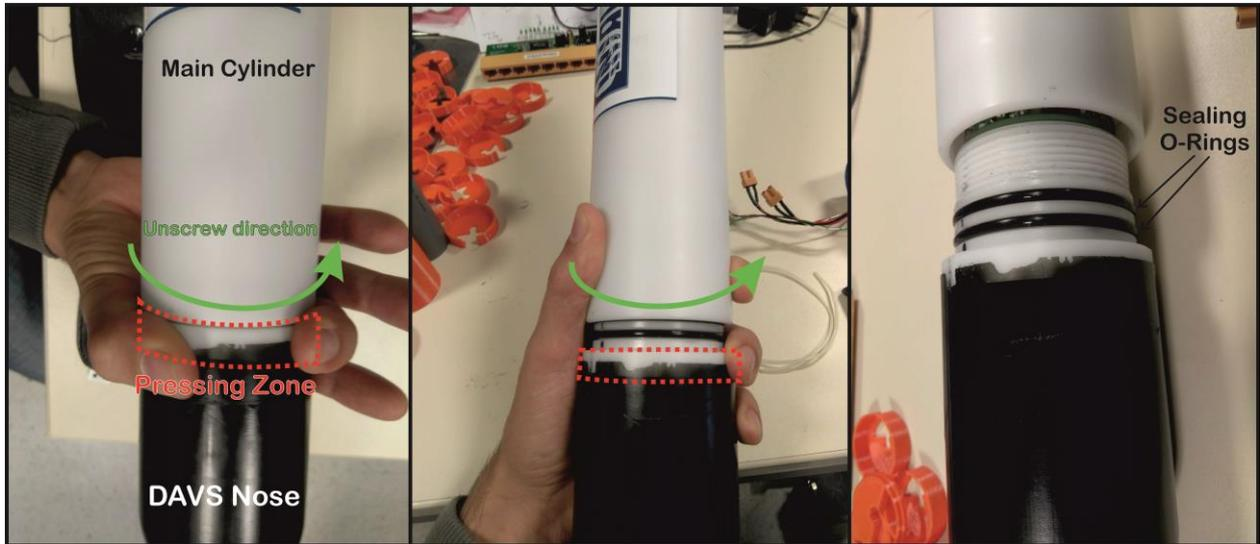

Figure 8 - Remove nose from main cylinder
If you need to insert a SD card, remove the DAVS nose by unscrewing it gently. Try to press the nose in the white Delrin zone only (marked in dashed red at Figure 8 above). Only unscrew the nose from the cylinder when the SD card is prepared, to minimize the exposure time to any dust or particles that may damage the sealing o-rings.
All electronic boards are attached to the nose, so remove it from cylinder carefully (1 in Figure 9). The SD slots are in the plastic yellow support and you need to use on slot A a card with a configuration file. Can also be used slot B for extending memory capacity, with a valid card on slot A(2). After inserting the SD card immediately close the DAVS, reversing the process of Figure 8. Slide the cylinder through the electronic boards carefully (3), then screw it in the direction marked by (4) and until it aligns the cylinder X axis mark with the nose X mark (5). The X mark follows the mold marks, as the dashed green alignment mark shows.